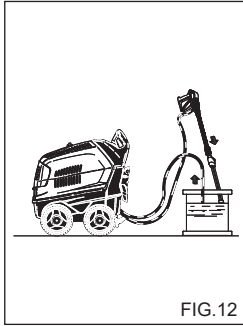

FIG. 12
**FREMANGSMÅTE VED BRUK AV DEFROSTER (fig. 12)**